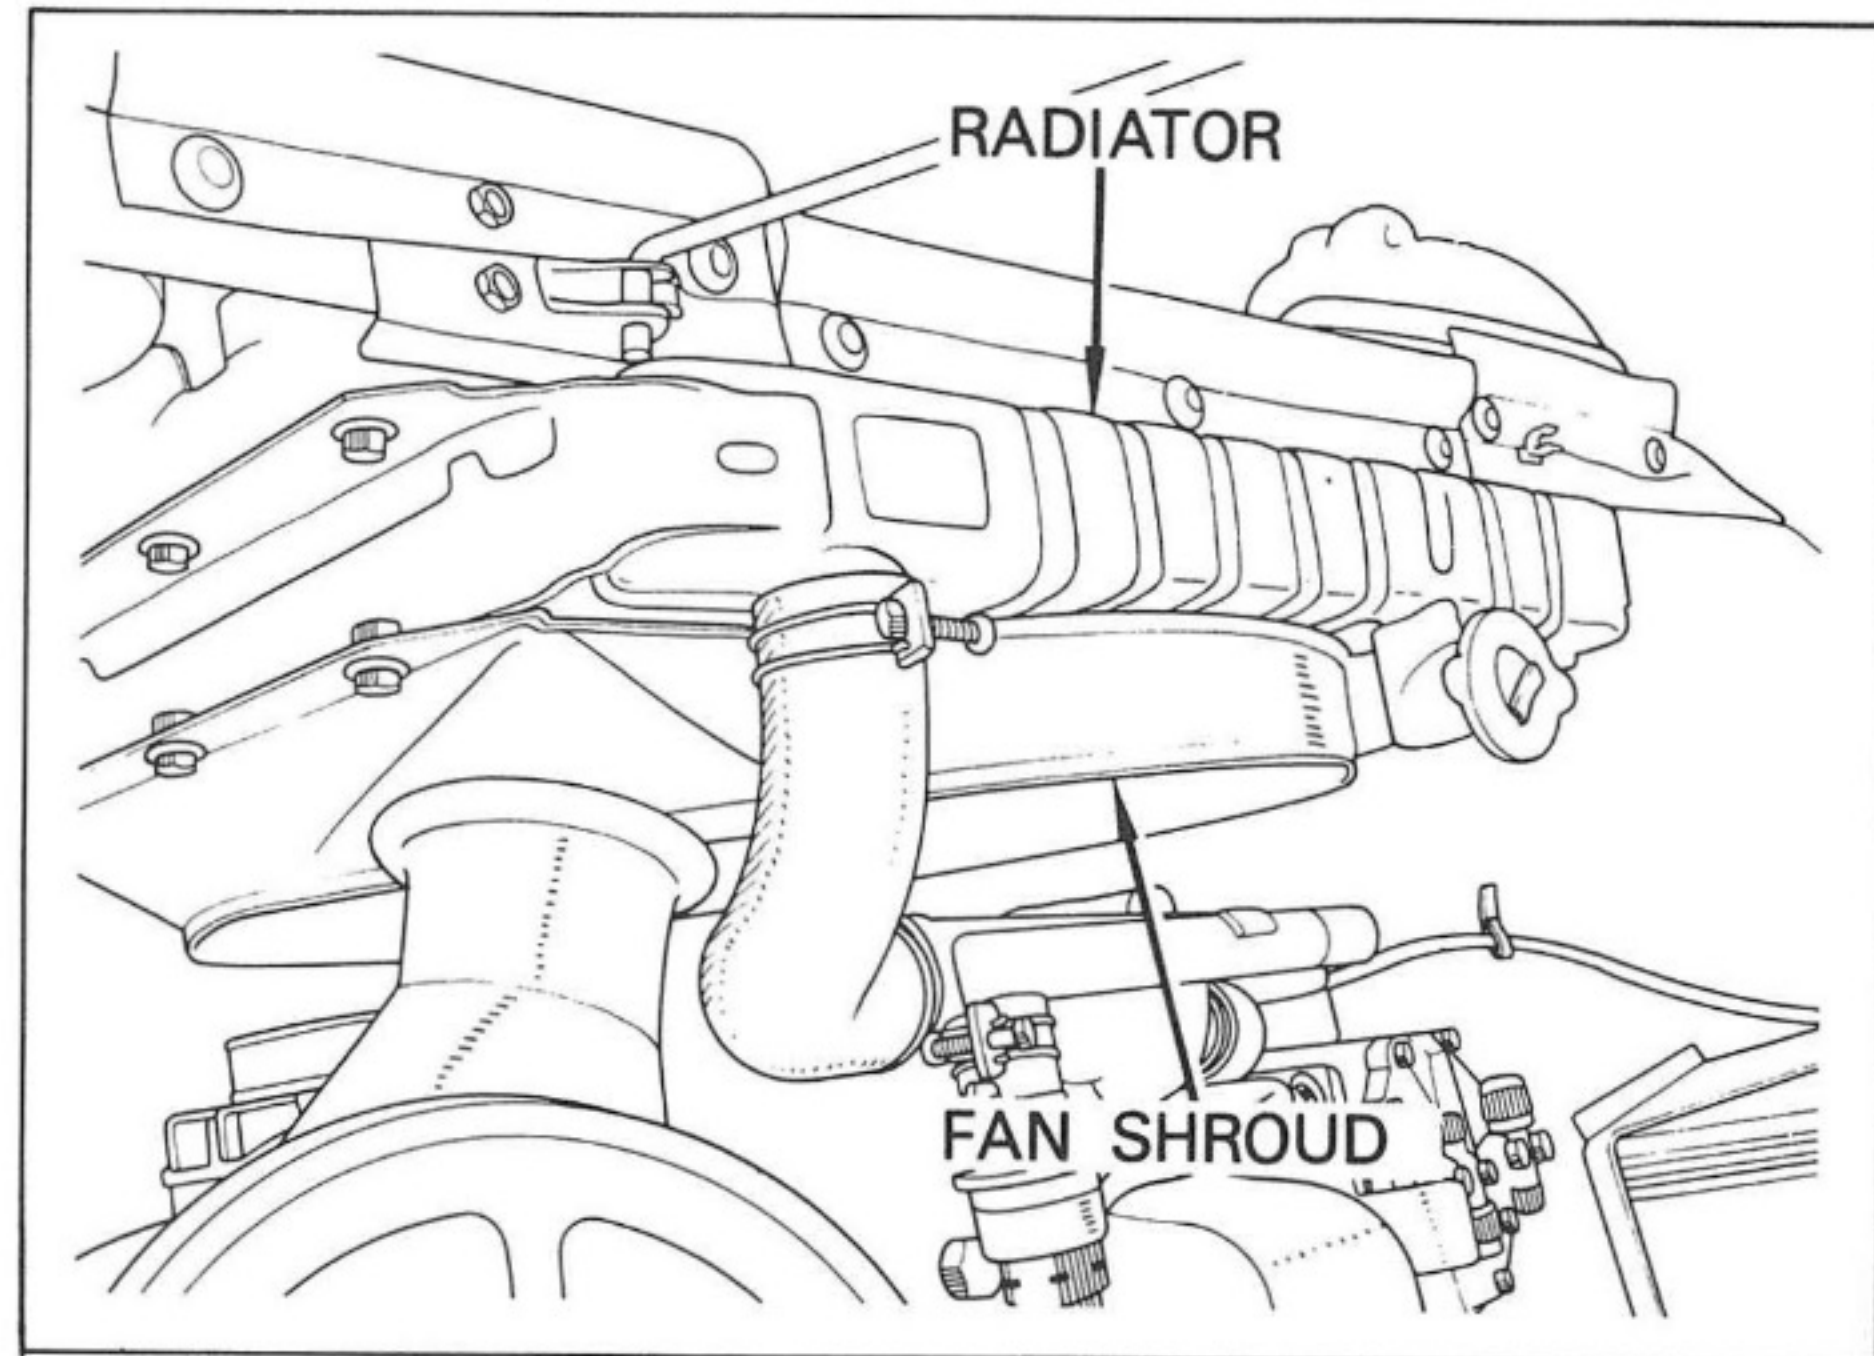

Fig. 25
- B) Reinstall the radiator and fan shroud. See Fig. 25.